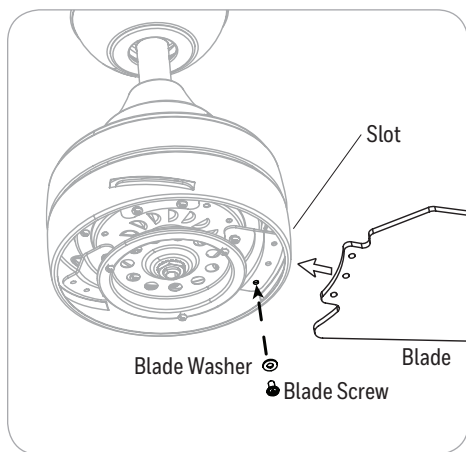

Figure 5.4
4. Insert blade through slot in the side of the motor assembly. Align the holes of one blade with three blade screw holes in underside of the motor assembly. Secure with three blade screws and blade washers. Repeat this step for the remaining blades (Figure 5.4).